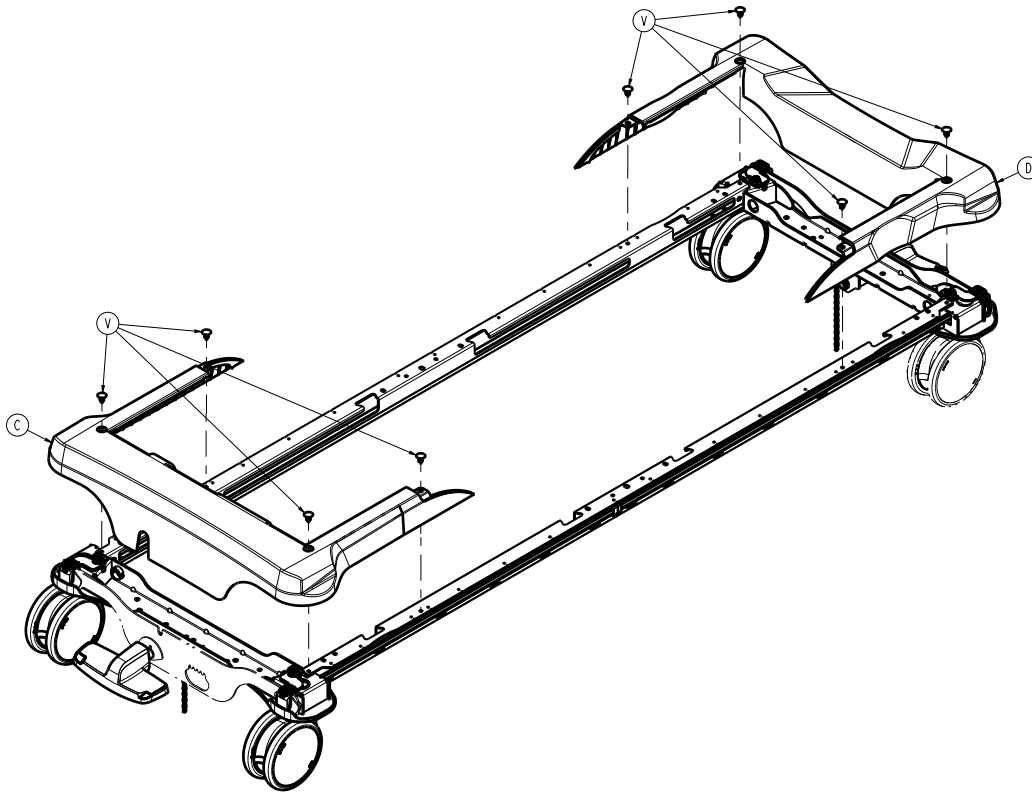

Figure 6 – Removing the covers
6. Using a slotted screwdriver and diagonal pliers, remove the eight retainers (V) that secure the head end (C) and foot end base covers (D) to the base frame (Figure 6). Discard the retainers. Remove the covers.